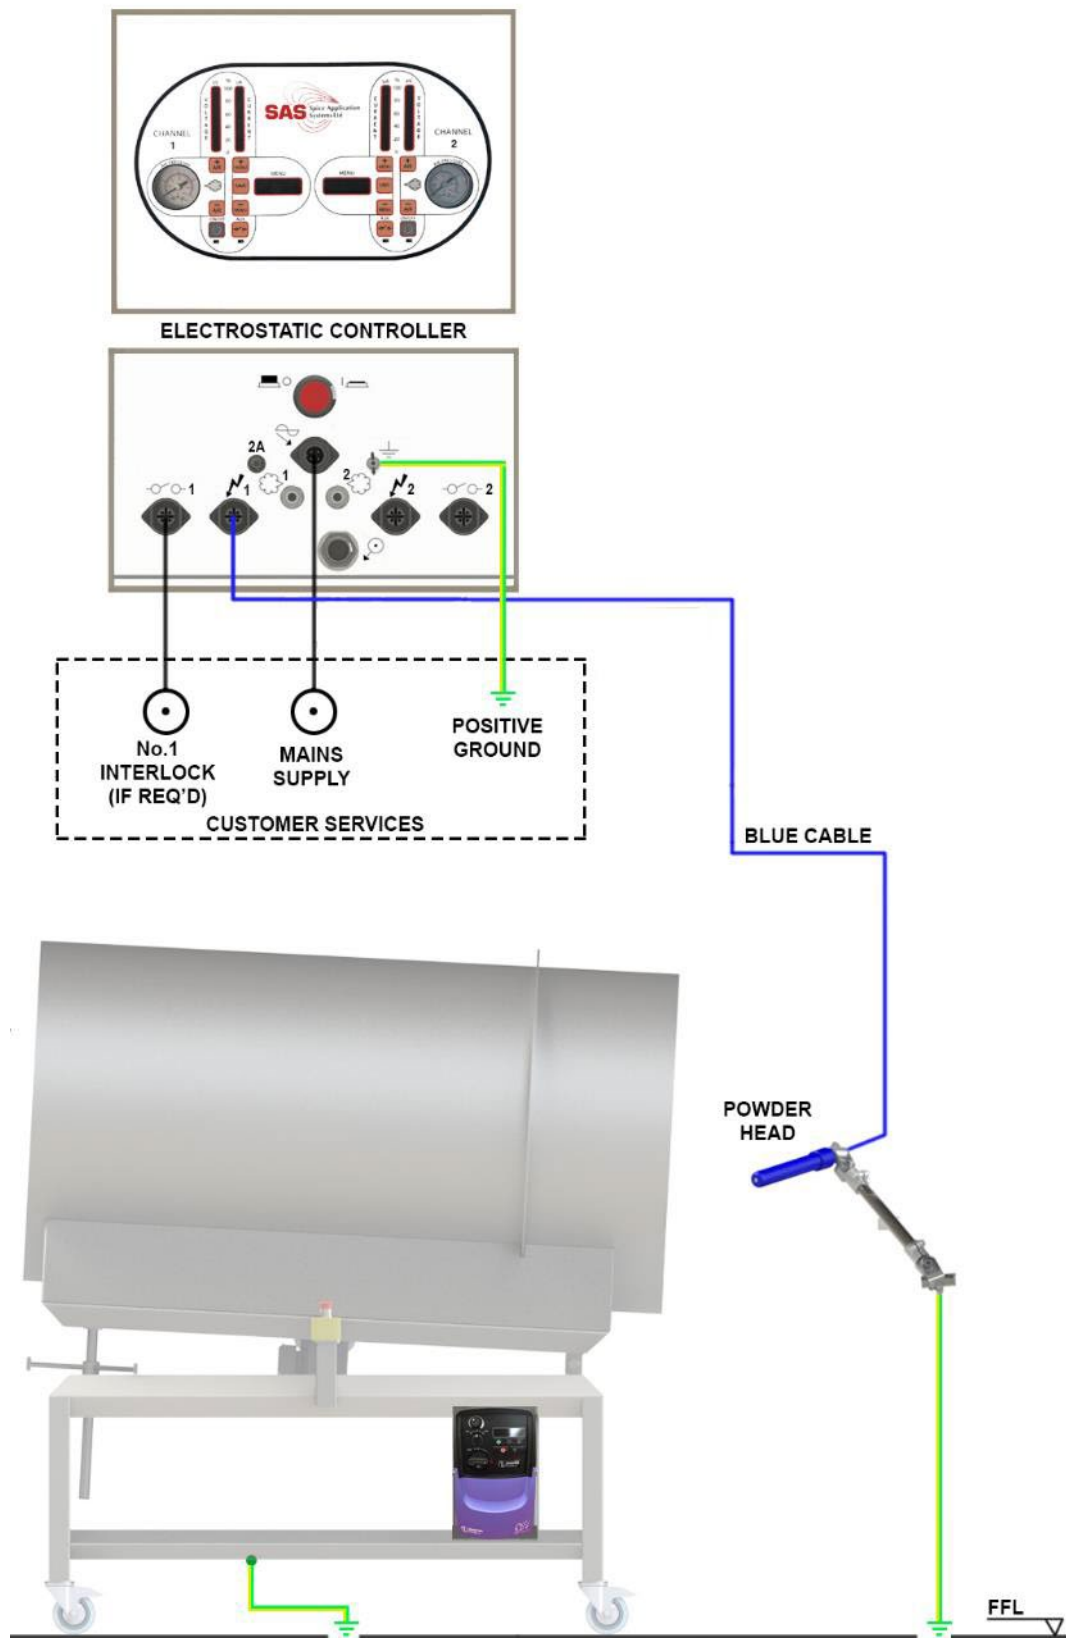
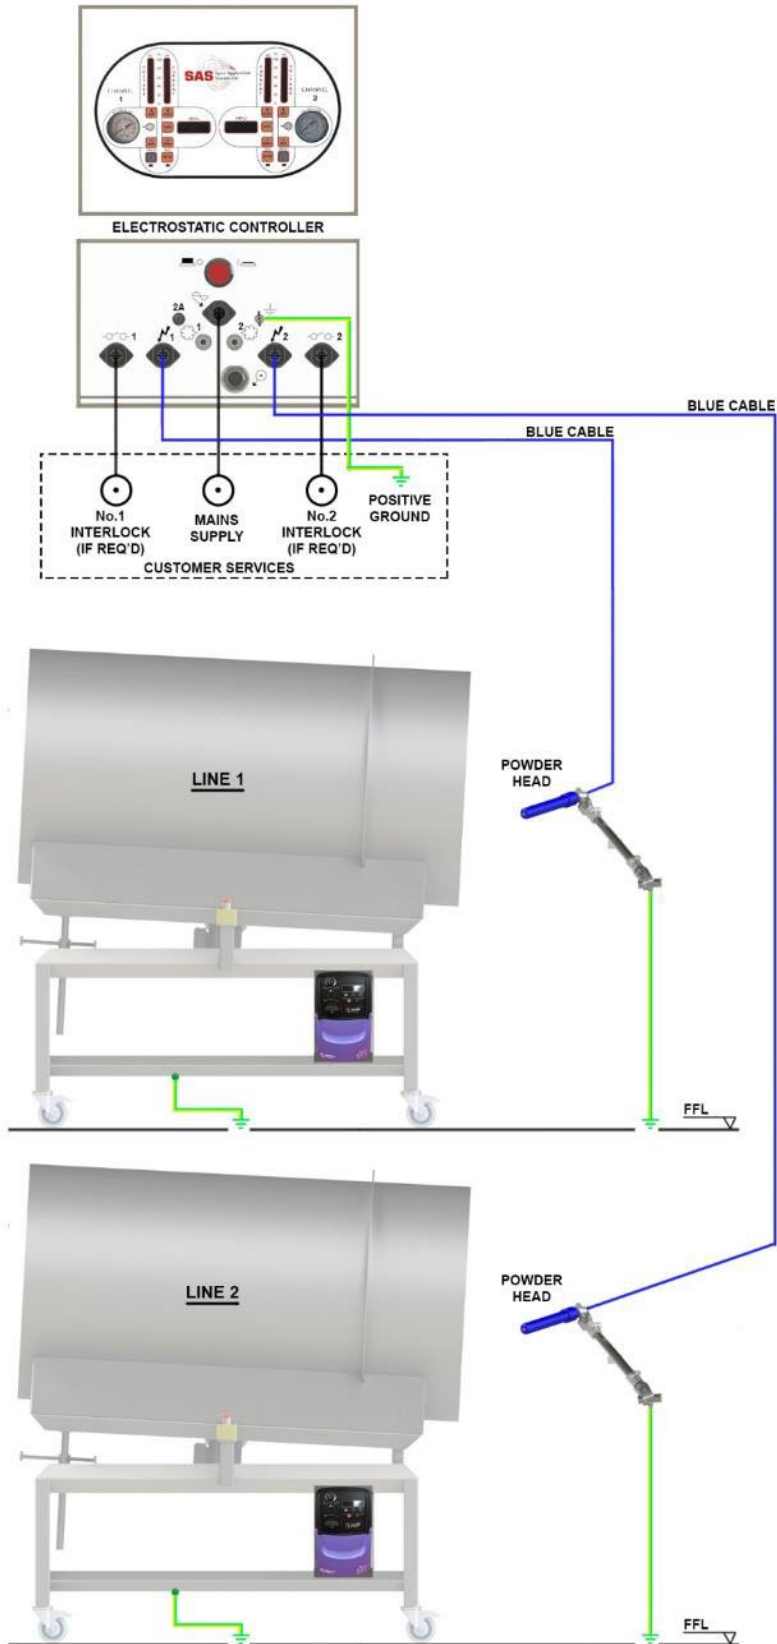

Fig 2
Fig 3
(see Page 10, Fig 3)*
18. For all Interconnection details of the equipment, please refer to page 9 - Fig 2 or page 10 - Fig 3 for your appropriate application.